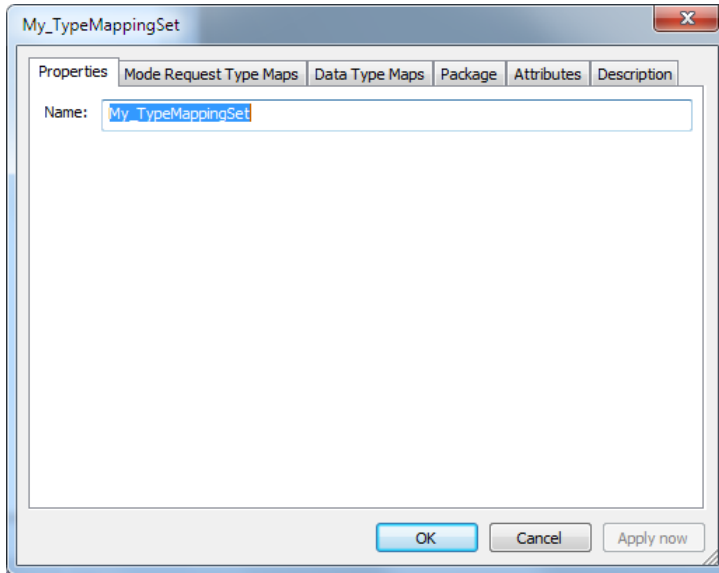

Figure 4-8 Type mapping set naming
- > A name is given to the type mapping set (see Figure 4-8).